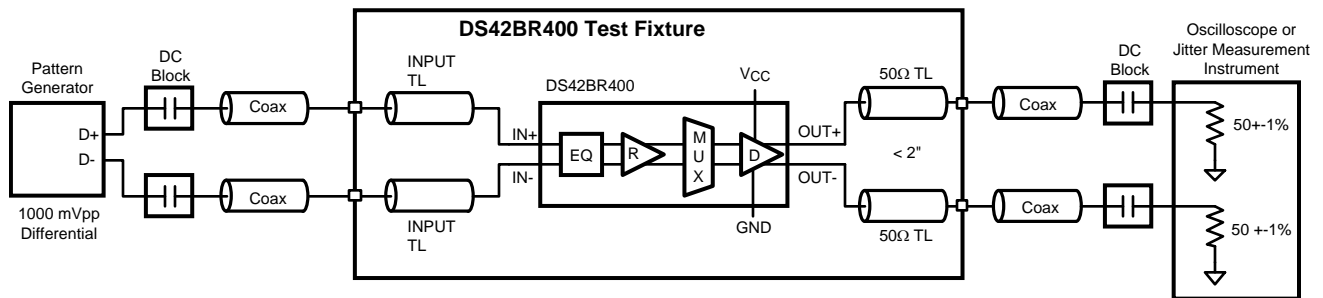

Figure 7. AC Test Circuit
(4) t_{SKO} is the magnitude difference in propagation delays between all data paths on one device. This is channel-to-channel skew. t_{SKPP} is the worst case difference in propagation delay across multiple devices on all channels and operating under identical conditions. For example, for two devices operating under the same conditions, t_{SKPP} is the magnitude difference between the shortest propagation delay measurement on one device to the longest propagation delay measurement on another device.
(5) Device output random jitter is a measurement of random jitter contributed by the device. It is derived by the equation $\text{SQRT}[(\text{RJ}_{\text{OUT}})^2 - (\text{RJ}_{\text{IN}})^2]$, where RJ_{OUT} is the total random jitter measured at the output of the device in ps(rms), RJ_{IN} is the random jitter of the pattern generator driving the device. Below 400 Mbps, system jitter and device jitter could not be separated. The 250 Mbps specification includes system random jitter. Please see Figure 7 for the AC test circuit.
(6) Device output deterministic jitter is a measurement of the deterministic jitter contribution from the device. It is derived by the equation (DJ_{OUT} - DJ_{IN}), where DJ_{OUT} is the total peak-to-peak deterministic jitter measured at the output of the device in ps(p-p). DJ_{IN} is the peak-to-peak deterministic jitter at the input of the test board. Please see Figure 7 for the AC test circuit.
(7) This parameter is specified by design and/or characterization and is not tested in production.